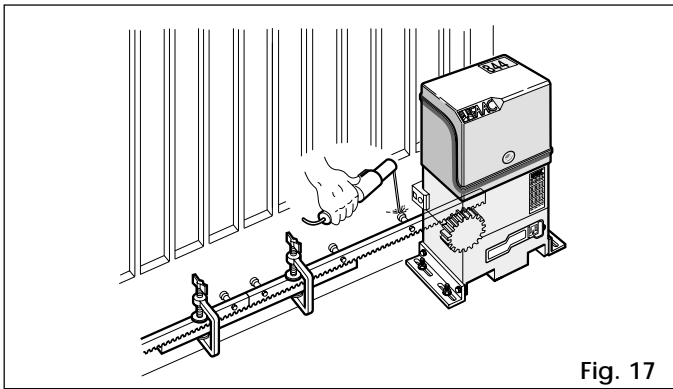

Fig. 17
- 5) Position another rack element next to the first and use a section of rack to set the teeth of the two elements in phase as shown in Fig. 17.
- 5) Place another rack element next to the first and use a section of rack to set the teeth of the two elements in phase as shown in Fig. 17.